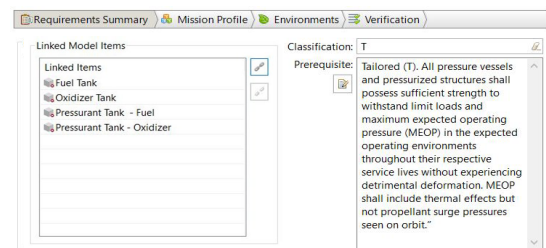

Figure B58: RVT Classification Window
- 4) Link (or allocate) requirements to modeling elements by selecting the requirement in the *RVT Requirements* window, and (while viewing the *Requirements Summary* tab (Figure B53) of the *Requirement Details* section of the *RVT Requirements* window) use the link button (🔗) to specify the items to link to the requirement by selecting them in the *Link Model Items* window (Figure 57). All linkages will be displayed in the *Requirement List* and the *Requirements Summary* tab (Figure B58) of the *Requirement Details* section of the *RVT Requirements* window but are only editable in the *Requirements Summary* tab. Currently, each requirement will need to be individually linked. Parent-requirement linkage does not currently automatically apply to child requirements and vice versa.
- 1) Select the requirement in the *RVT Requirements* window, and (while viewing the *Requirements Summary* tab of the *Requirement Details* section of the RVT window) use the *Classification* field (Figure B58) to update *Classifications* with compliance/verification assessments and annotate those updates as necessary using the annotation process shown